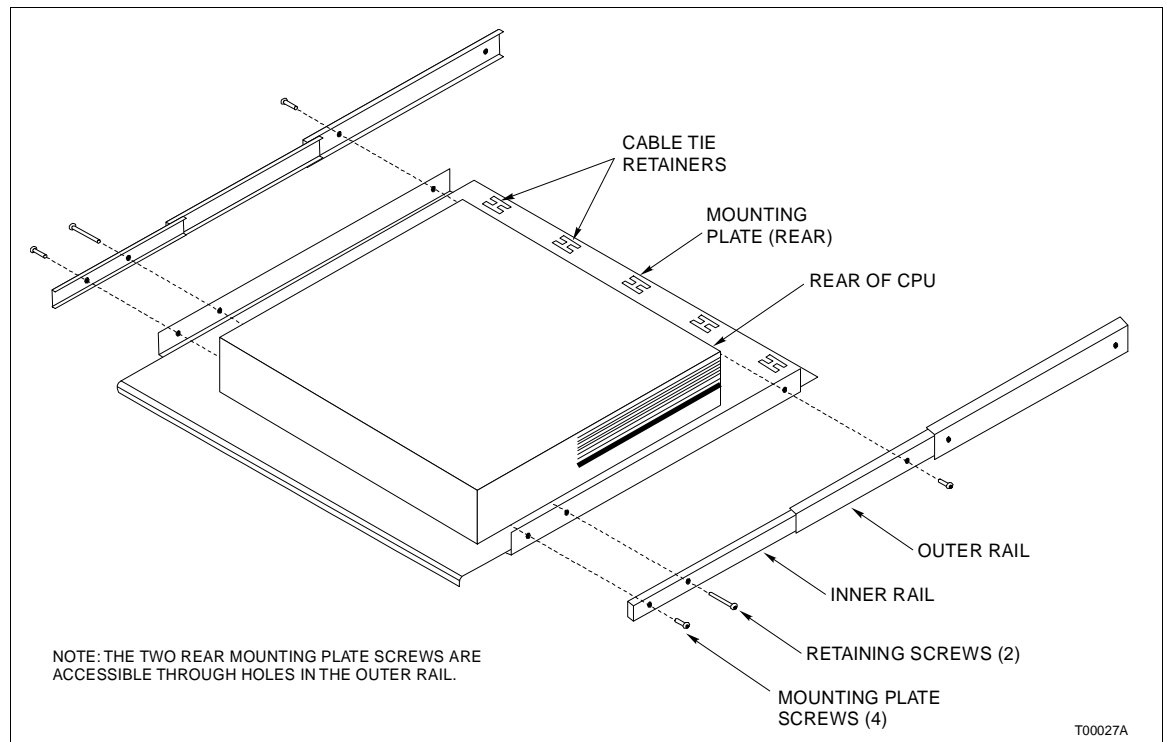

Figure PR21-1. CPU Removal
1. Use the small-tipped magnetic Phillips head screwdriver to remove the two retaining screws (Fig. PR21-1).